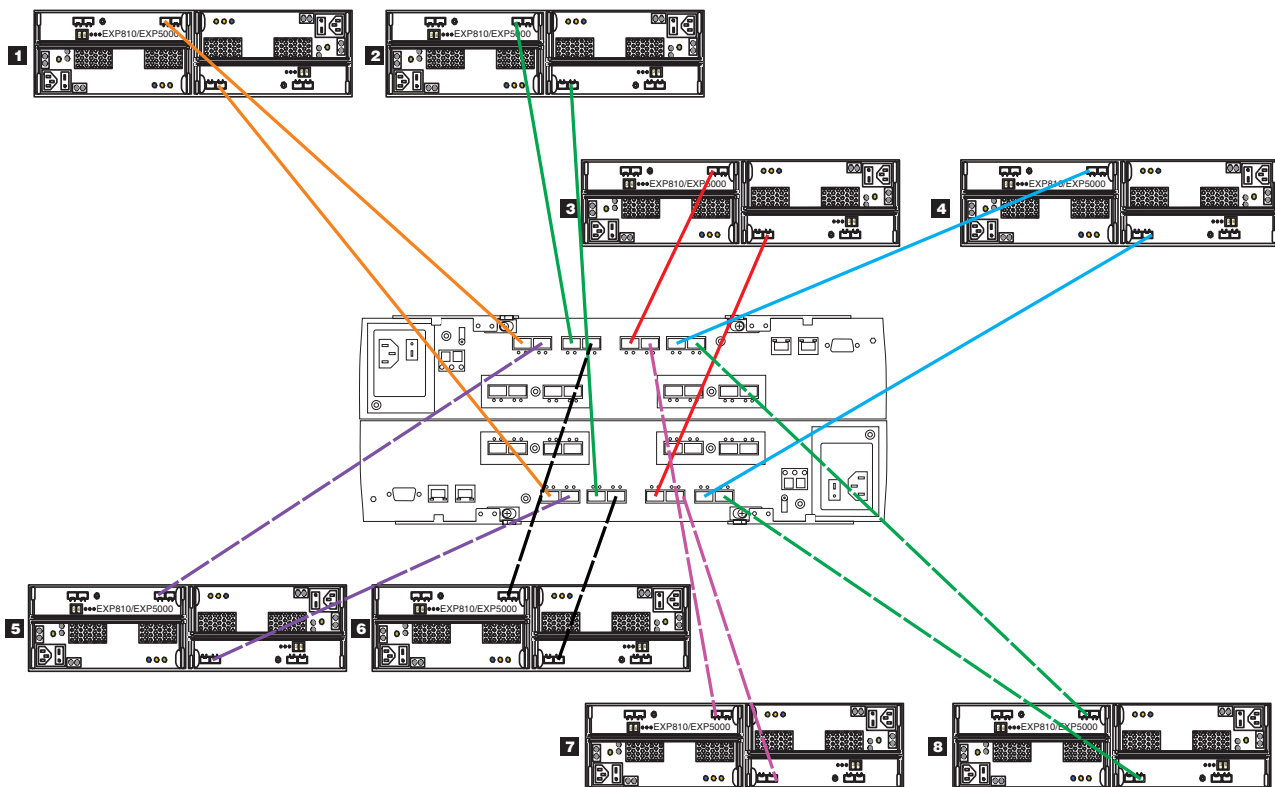

Figure 10. Use all drive channel ports when connecting storage enclosures
- When you connect the storage enclosures to drive mini hubs, do not use all ports in each of the drive mini hubs in the DS4400 or DS4500 storage subsystem. Connect the Fibre Channel cable to only one port of the drive mini hub and leave the other port unoccupied. However, when you connect the storage enclosures to drive channel ports (such as on the DS4200, DS4700, DS4800, DS5020, DS5100, and DS5300 storage subsystem), use all ports in each of the drive channels. Figure 10 illustrates connecting eight storage enclosures to the DS5000 storage subsystem. The eight enclosures are connected to use all of the drive channel ports in the DS5000 storage subsystem instead of stacking the storage enclosures behind a subset of drive channel ports.